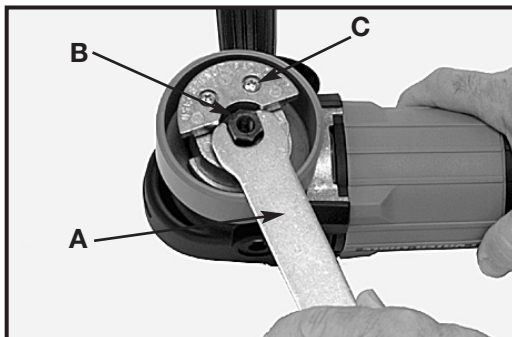

Fig. 6
2. Position spindle wrench (A), Fig. 6, (furnished with tool) to engage the flats on the spindle (B), Fig. 6.
- B. Fig. 6 shows tool with pad removed for clarity.
- C. A spacer (not shown) has been supplied with the 7336SP and 7424 to add space for the backup pad to clear the eccentric plate screws (C) Fig. 6. Remove the spacer from the package and mount it on the shaft before applying the backup pad.